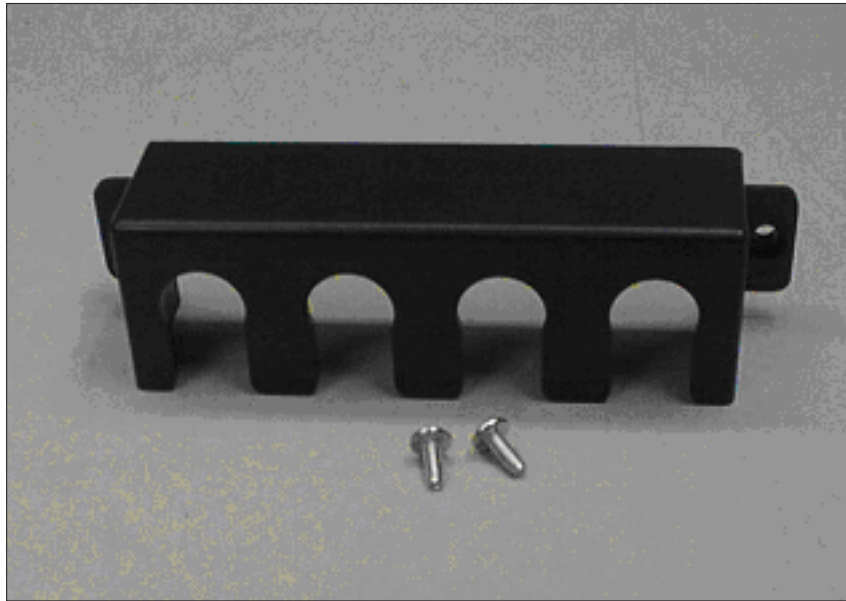

Figure 37. 2145 UPS-1U power cable-retention bracket hardware
2. Remove the bracket and the two screws (shown in Figure 37) from the packaging.